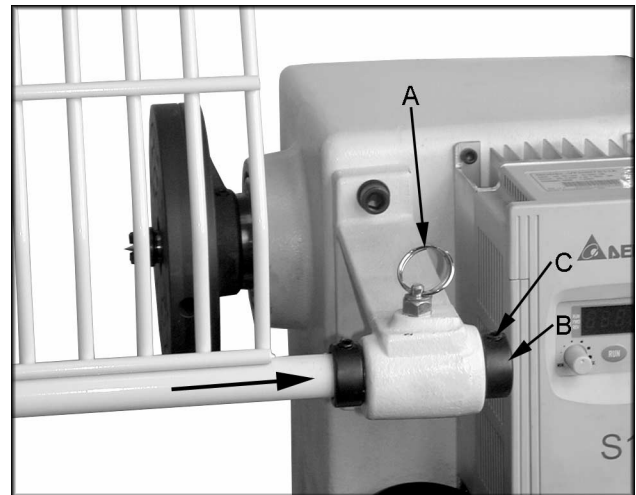

Fig. 5
1. Attach guard to the bracket by inserting the rod and lifting up on the plunger (A, Fig. 5).
3. Tighten the bushings (B, Fig. 5) against the bracket with two setscrews (C, Fig. 5).